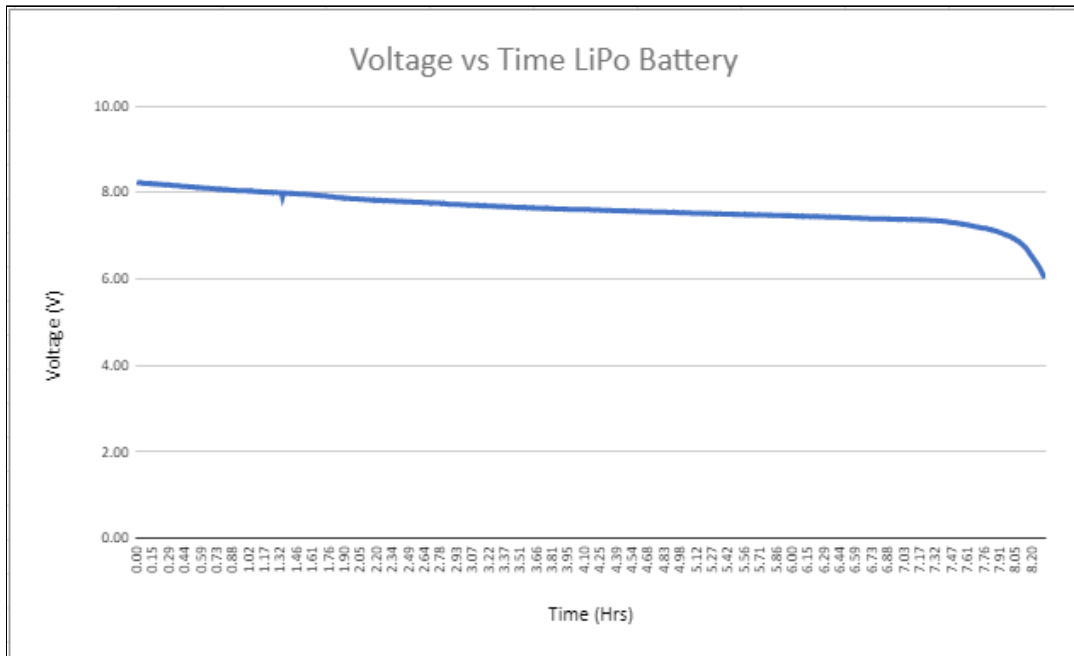

Figure 2
2. Tested the LiPo battery, which the team selected to use based on the client's criteria and constraints. Subjected the LiPo battery to the same test cycle as above. *Figure 2* is the graph of voltage vs. time, which shows the ride time of approximately 8 hours. This verified the system would meet the requirement of a run time of 10 hours because this test was conducted at a more intense rate than